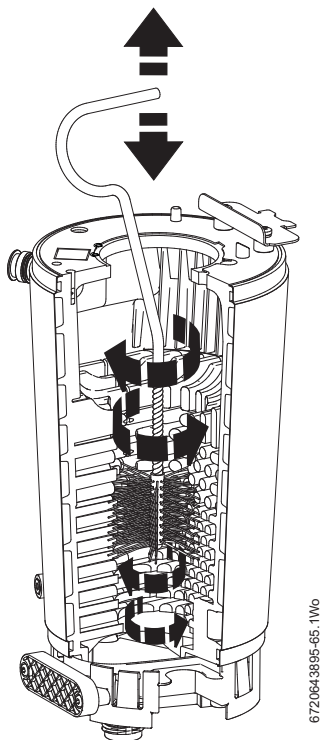

Fig. 89 Cleaning heat exchanger
- ▶ Refer to figure 89 and access the heat exchanger flue ways by inserting the cleaning brush (7 716 192 312) through the top access hole in the casing, removal of panel shown in figure 85.
- ▶ Re-assemble ensuring that the lower baffle (2) and the top baffle (1) are refitted correctly.